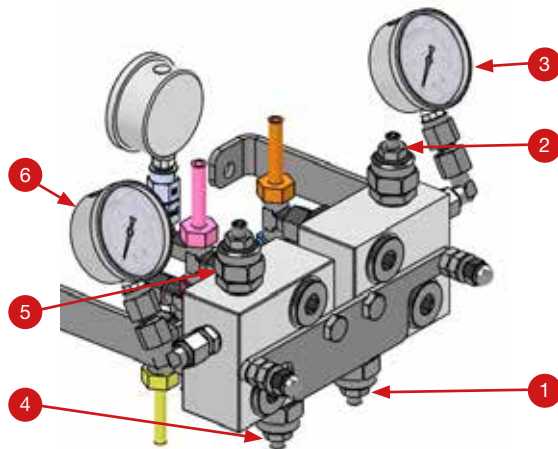

Fig. 74. Hydraulic block 2 circuits - front view
4. Adjust valve 1 (see Fig. 74, item 1) until the pressure gauge reads approximately 65 bar.
2. The operator at the paver-clamp monitors the pressure on the pressure gauge (see Fig. 74, item 6) to ensure it is 110 bar. A pressure of 180 bar must be set for lateral shifting of the stone layer.